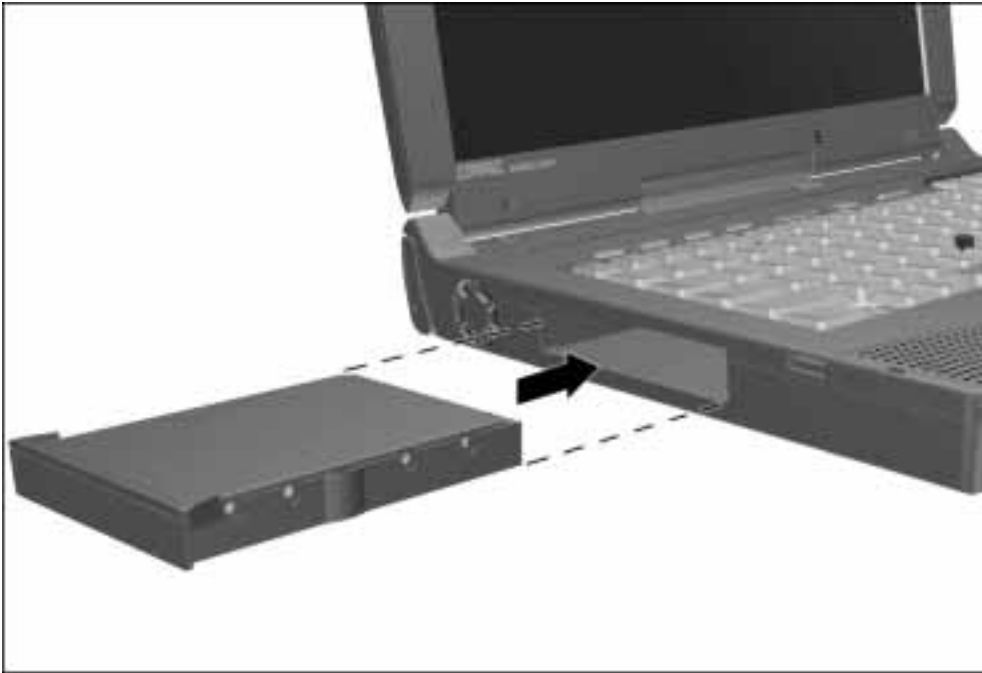

Figure 5-11. Inserting a Hard Drive
1. Slide the hard drive into the hard drive bay (Figure 5-11).